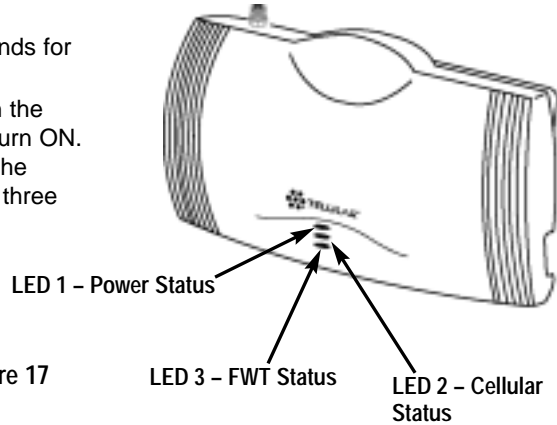

Figure 17
- 3) The three LED indicators on the front of your Phonecell will turn ON. The Tables below describe the modes and operation of the three indicators - *see Figure 17.*